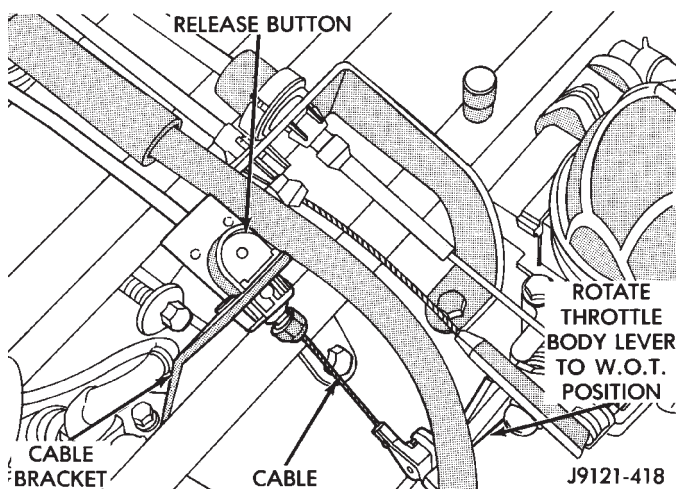

Fig. 45 Throttle Cable Adjustment
- (3) Push cable conduit back into cable sheath as far as possible (Fig. 45).
- (4) Rotate lever on throttle body to wide open throttle position. Cable will ratchet to correct adjustment point as lever is rotated (Fig. 45).